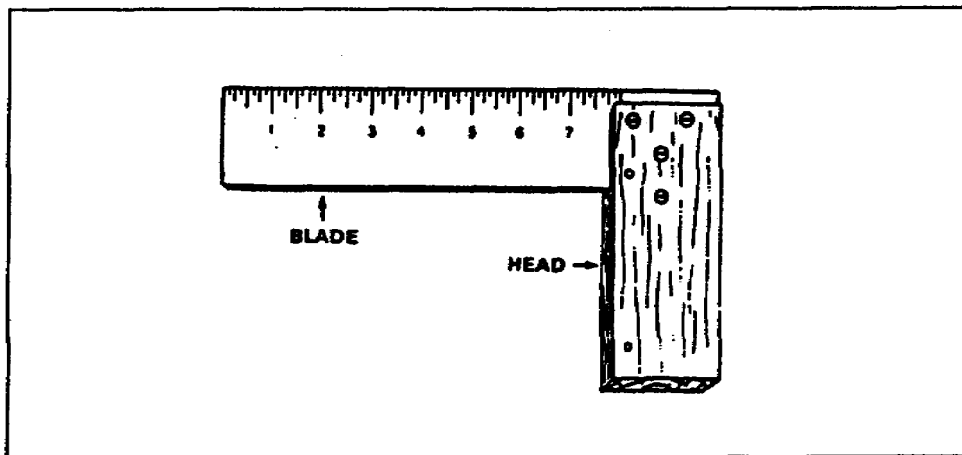

Figure 2-46. Try square
a. Try Square. The try square (Figure 2-46) is so called because of frequent use as a testing tool when squaring up wood stock. It consists of a steel blade 8 inches long at right angle to the stock, which is usually made of hardwood and faced with brass to preserve the wood from damage. The blade usually has a scale divided into eighths of an inch.